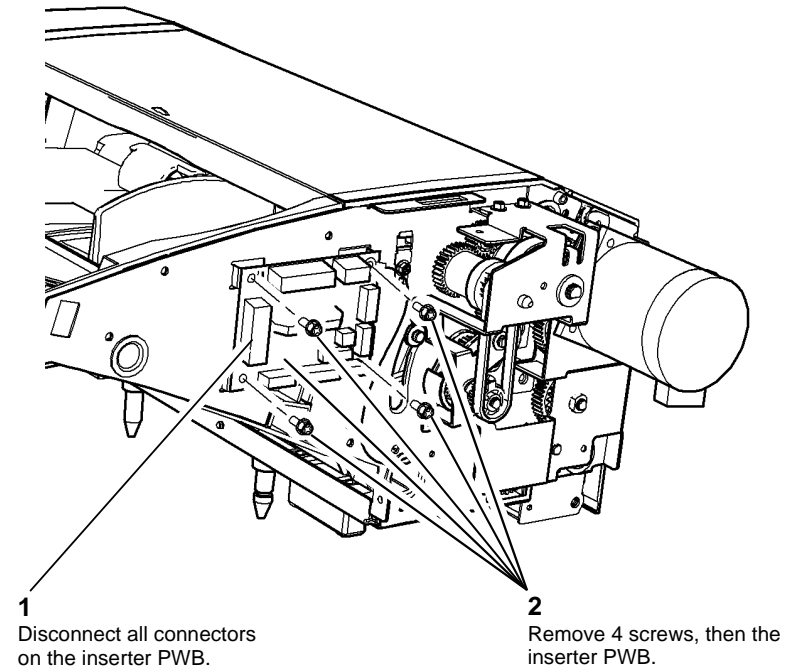

Figure 1 Inserter PWB
2. Remove the inserter PWB, Figure 1.